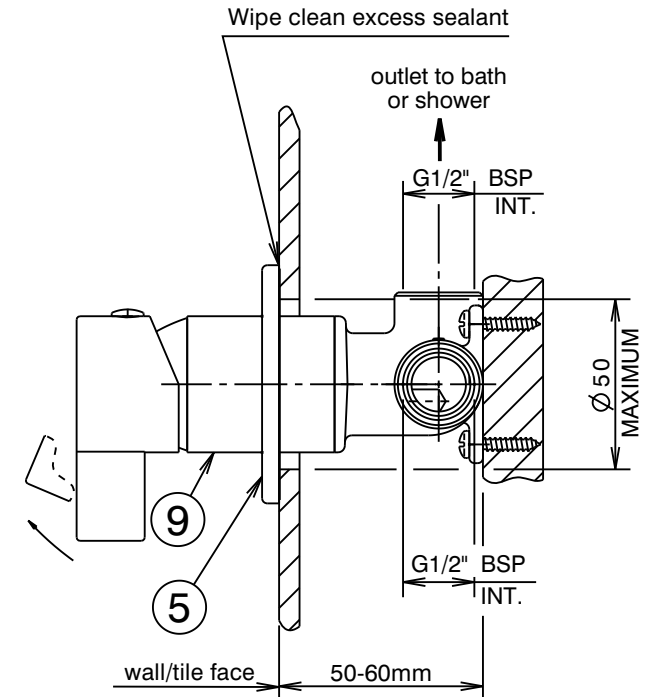

Fig. 1
### Installation (Fig. 1 & 2)
- \* Mixer body (9) must be installed square to wall/tile face, to ensure cover plate (5) sits flush.
- 2) **Trim kit:** Apply a suitable clear sealant to the back face of the cover plate (5), leaving an unsealed section at the bottom for drainage. Carefully fit the cover plate (5) onto the mixer body (9). Push the cover plate (5) firmly against the wall/tile face. Wipe clean any excess sealant from the chrome surfaces & the wall/tile face (See Fig. 1).
- 3) Fit handle (1) taking care that it is pushed fully onto cartridge stem, then tighten grub screw (2) using the 2.5mm allen key (3). Fit plug (4), taking care not to damage the decorative finish.